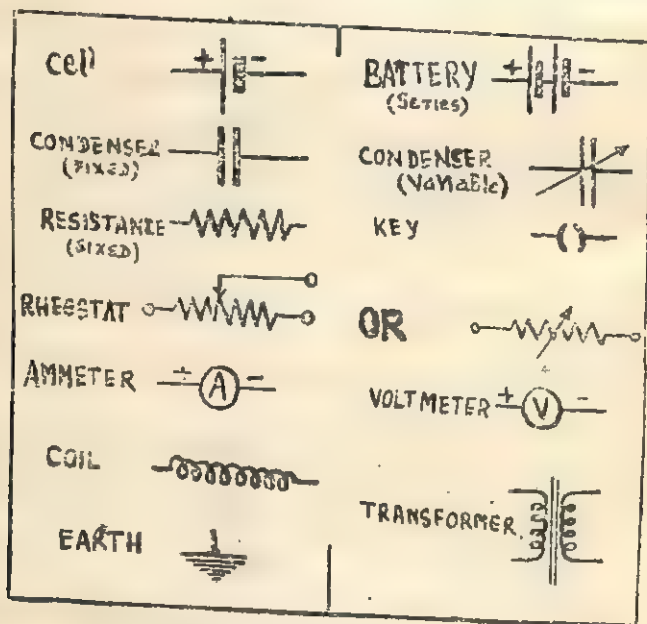

Fig. 12.7. Symbols for electrical components.
(6) **Symbols used in Circuit Diagrams.** Fig. 12.7 illustrates the symbols used for different electrical components.